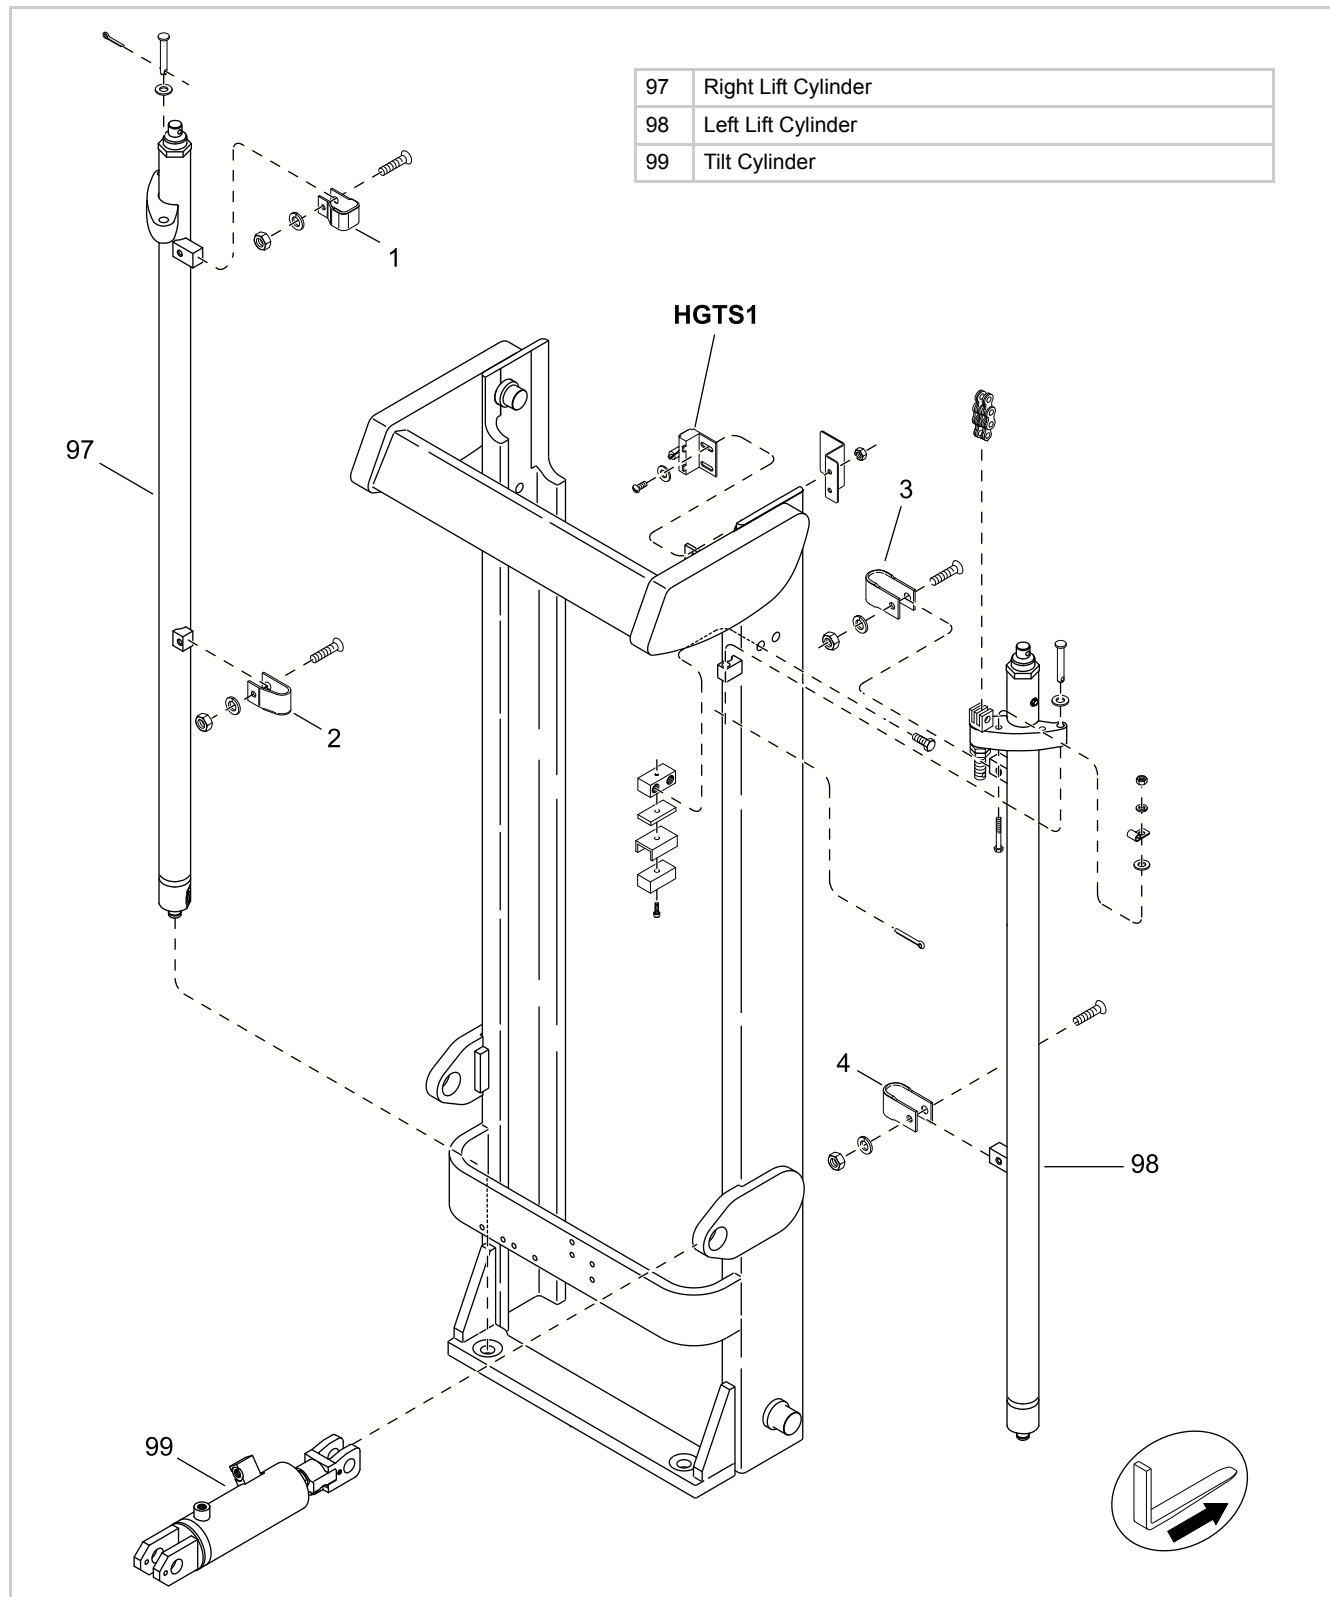

Fig. 3 (25456)
9. See Figure 3. Disassemble the brake.
3. See Figure 3. Assemble the brake to the motor using the three socket head screws.